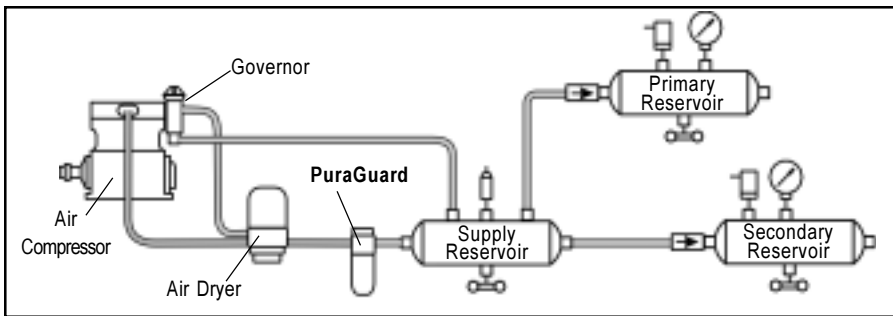
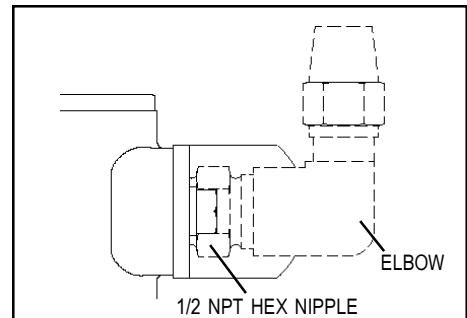

FIGURE 2 - PURAGUARD INSTALLATION - SYSTEM WITH AIR DRYER
FIGURE 5 - ELBOW FITTING IF NEEDED
- (a) **For vehicles with air dryers**, mount the PuraGuard upstream of the Supply reservoir (see Figure 2).
Follow either Figure 2 or 3 for air hose arrangement. The PuraGuard supply and delivery ports are 1/2-14 NPT. Install minimum 1/2 inch inside diameter air hoses. When installing an elbow fitting use the fitting arrangement shown in Figure 5, using a high strength nipple and then a female-male elbow fitting.